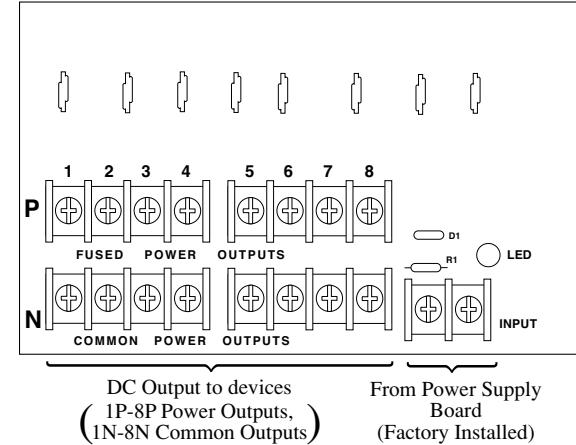

Fig. 4a - PD16W Power Distribution Board
- b. For other Power Distribution Models connect devices to be powered to terminal pairs 1 to 8 marked [1P & 1N thru 8P & 8N] (*Fig. 3a & 3b*, pg. 6) or 1 to 16 marked [1P & 1N thru 16P & 16N] (*Fig. 4a & 4b*, pg. 6) carefully observing correct polarity.